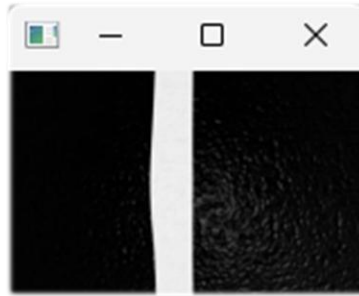

Figure 3. Downward Facing Camera Feed
5. Using observer.py, open the downward facing camera feed as shown in Figure 3. Now, instead of looking at the QLab window, try making the robot follow the lines on the mat using only the downward facing camera feed. Document the strategies you utilized to follow the line and additional challenges faced when using only the camera feed.